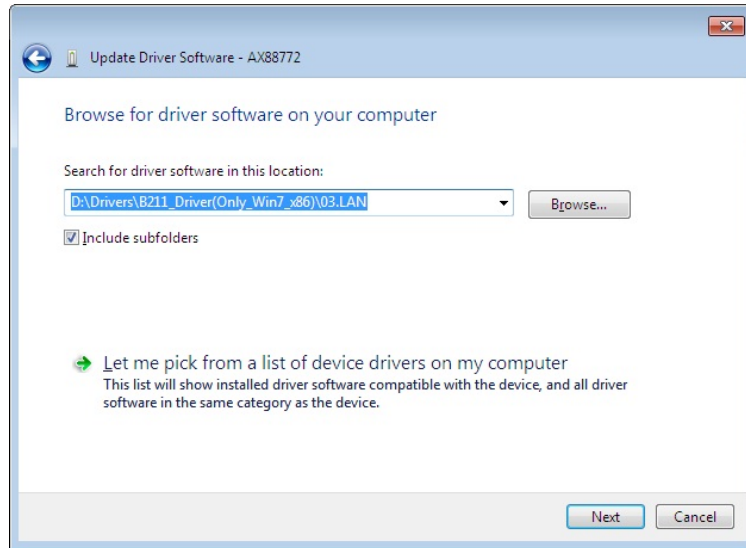

Figure 6-20: Driver Location Window
Step 14: The following window (Figure 6-20) appears.